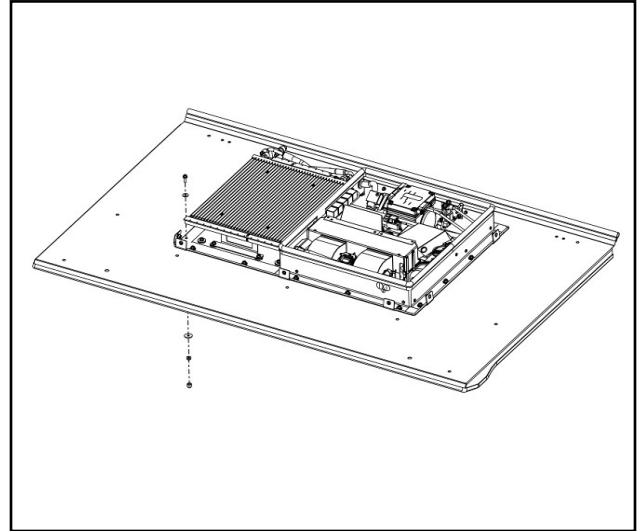

Fig. 11.1 Install A/C Unit
- 11.1 With assistance, place the air conditioner unit onto the roof, center it inside of the roof's rectangular opening. See figure 11.1.